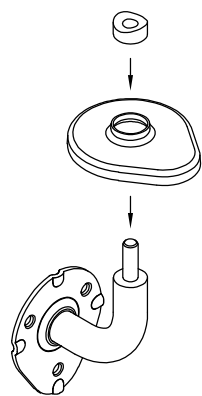

fig 4
- Step 5:** Slide a flange cover loosely over bracket base plate and rod assembly. Slide a shim over the threaded stud with the "cup" facing upward, see **fig 4**. Thread a bracket into each hole and tighten to align base plates with each other and parallel to the rail. Be sure handrail tubing is seated properly in cup of shim.